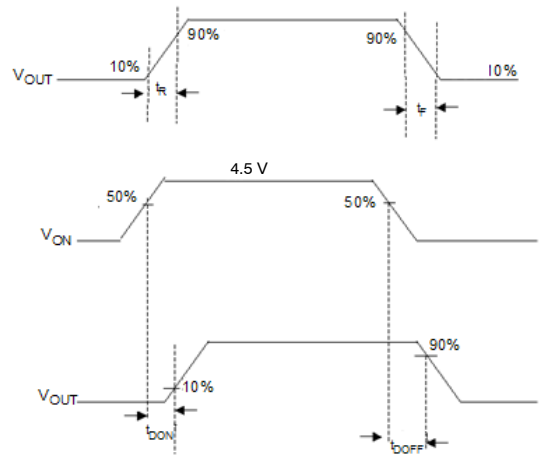

Figure 21. Timing Diagram
8.  $t_{DON}/t_{DOFF}/t_R/t_F$  are defined in Figure 21.